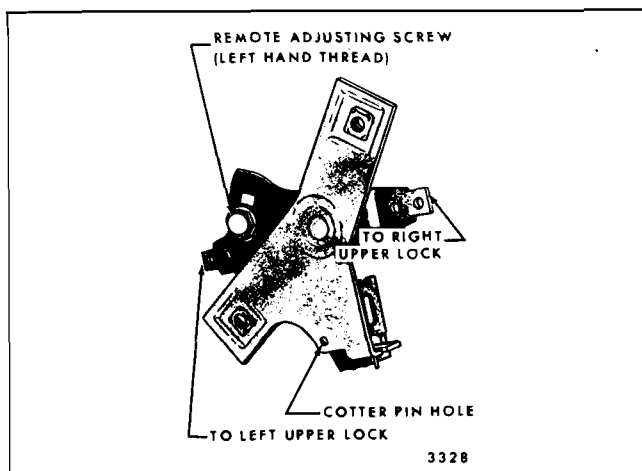

Fig. 9-24—Tail Gate Lock Remote Control - Gate Operation
2. Install a small nail or cotter pin in hole provided in remote control (Fig. 9-24).
6. Remove cotter pin or nail (Fig. 9-24).